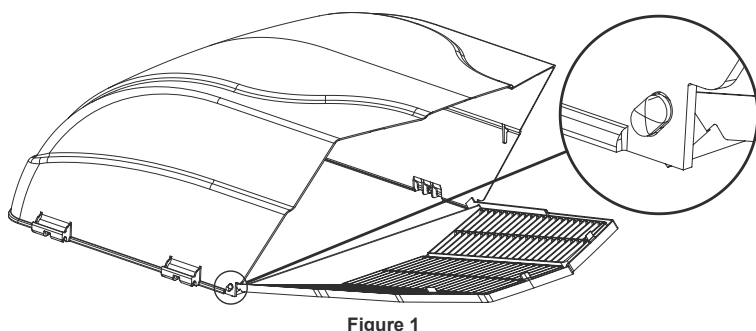

Figure 1
2. Lay Louver section behind opening of vent cover body with tabs up as shown in Figure 1.